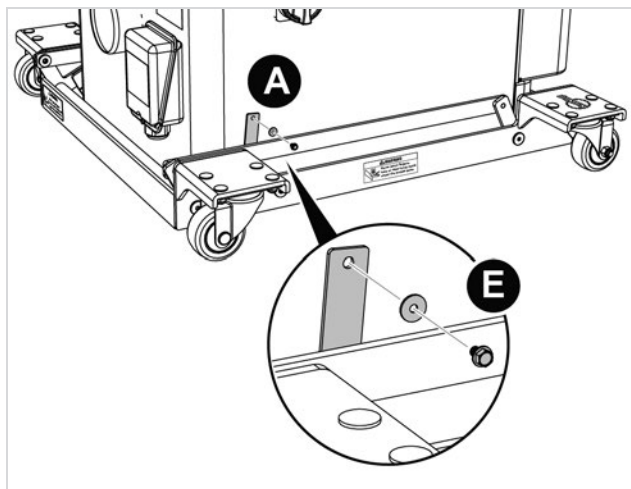

Fig. 2a
Locate the two self-tapping screws and the two M4 x 12 x 1 washers (E). Some cabinet configurations will have pre-drilled holes for the self-tapping screws. If your saw cabinet does not have pre-drilled holes, or you are having difficulty aligning the holes, rotate the rear hold-down bracket (A) until the top hole is over the flat face of the cabinet. Place one of the M4 x 12 x 1 washers over the end of one of the self-tapping screws and use a drill with a 1/4 inch hex drive bit to mount the rear hold-down bracket to the cabinet, as shown in Fig. 2a. There is no need to pre-drill a hole for the self-tapping screws, but be careful not to over-tighten the screws or the threads in the cabinet may strip out. Next, rotate the front hold-down bracket (B) until it is vertical and repeat the same procedure to mount it to the cabinet, as shown in Fig. 2b.